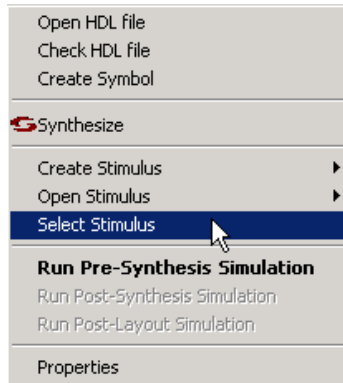

Figure 3-17. Selecting a Stimulus File
1. Right-click counter in the **Design Hierarchy** tab and choose **Select Stimulus**, as shown in Figure 3-17.